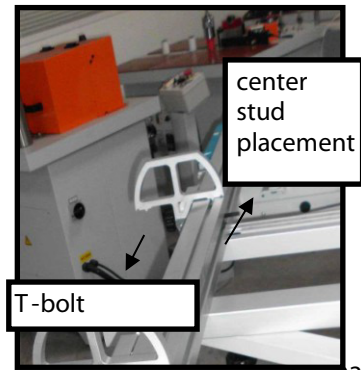

Fig. 23
4. Insert the center stud and the T-bolt in the places indicated (Fig. 23)